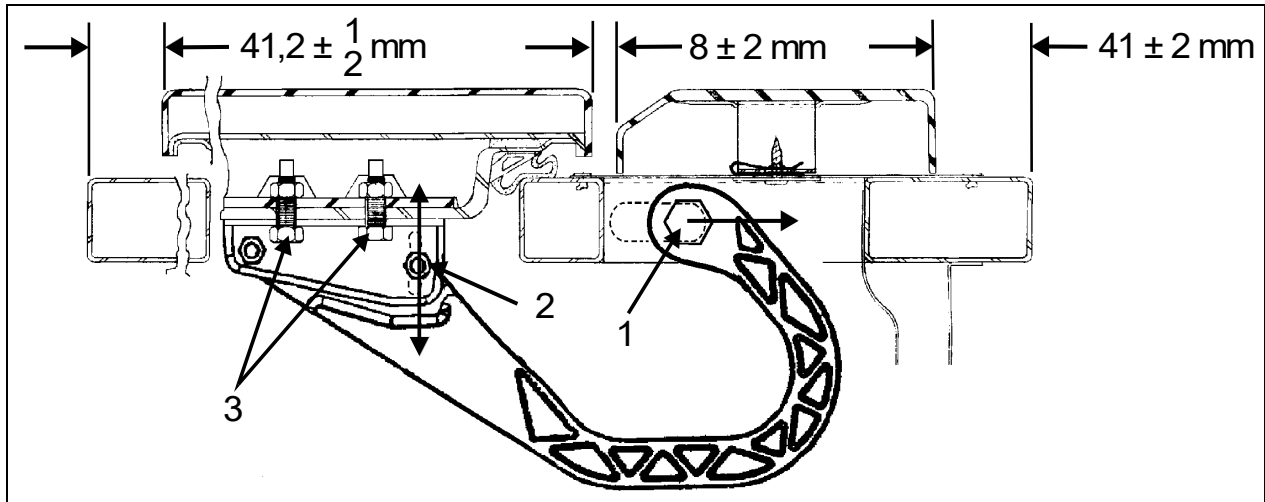

FIGURE 96: EVAPORATOR DOOR
2. Loosen nut (1, Figure 96).
4. Tighten nut (1, Figure 96).
5. Loosen nut (2, Figure 96). Hinge allows the door to be shifted "IN or OUT".
7. Loosen screws (3, Figure 96). Screws allow the door to be shifted "UP or DOWN".